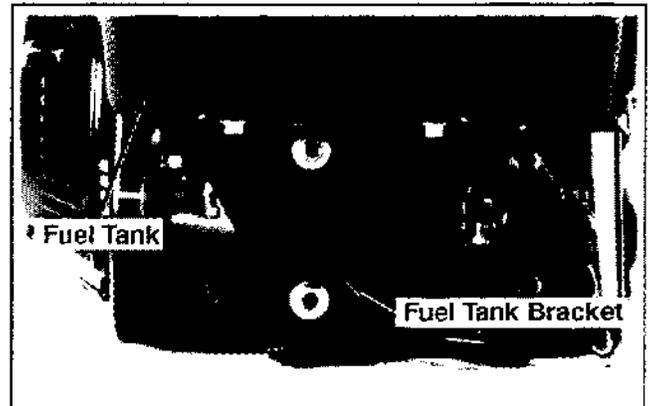

Figure 9-8. Removing Fuel Tank.
2. Remove hex flange nuts from lower bracket and hex flange screws from upper bracket of fuel tank. See Figures 9-8 and 9-9.